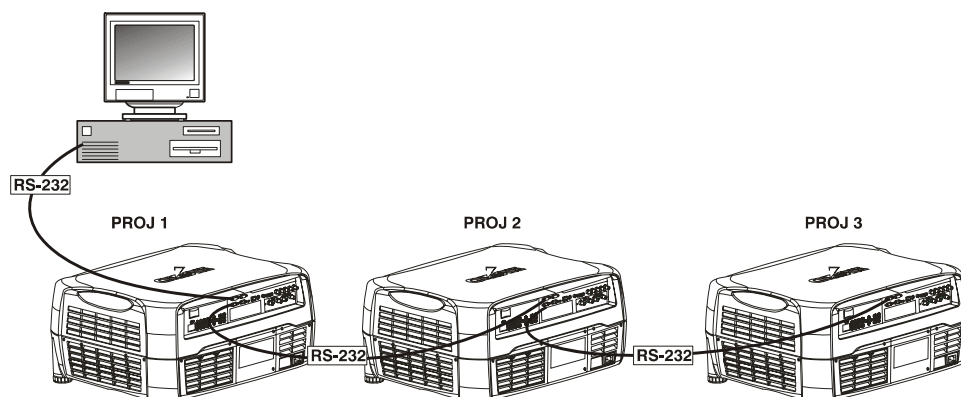

Figure 2.12. RS232 Network
- Connecting Multiple Projectors ► RS-232 NETWORK:** If you want to connect multiple projectors in a network with serial communication, connect the controlling source to the RS232 IN connector of the first projector in the network. Then take another serial communication cable and connect one end to the RS232 OUT connector and the other end to the RS232 IN connector of the next projector. Continue this pattern of connection with all projectors in the network. The last projector in the network will only have a connection to the RS232 IN connector. See Figure 2.12.